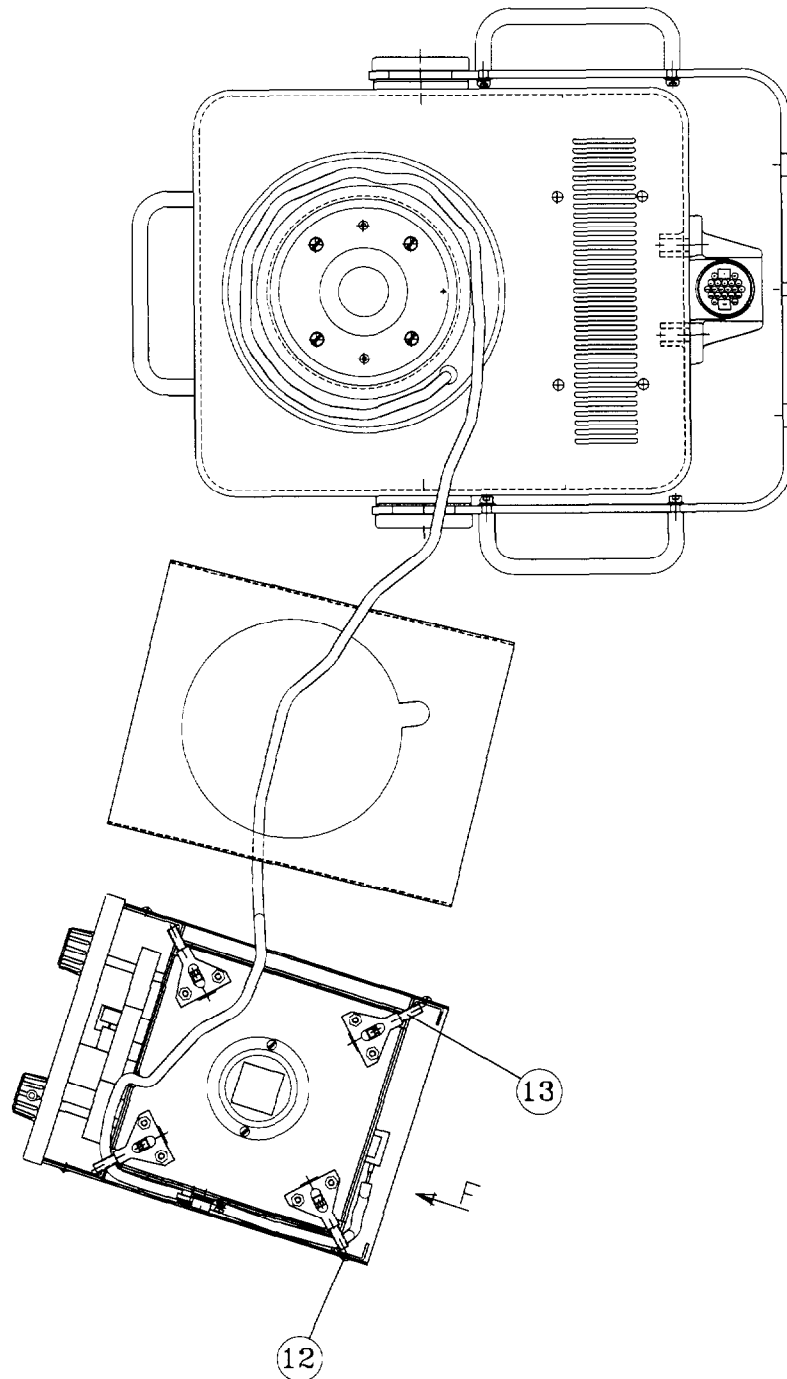

Fig. 4
- Feed the wire through the upper cover plate (as in Fig.4) at the back of the collimator and connect it to connector terminal K11.
- Wrap the wires clockwise (as in Fig. 4) around the rotating flange and install the collimator with the 4 Allen screws (13/ Fig. 4).